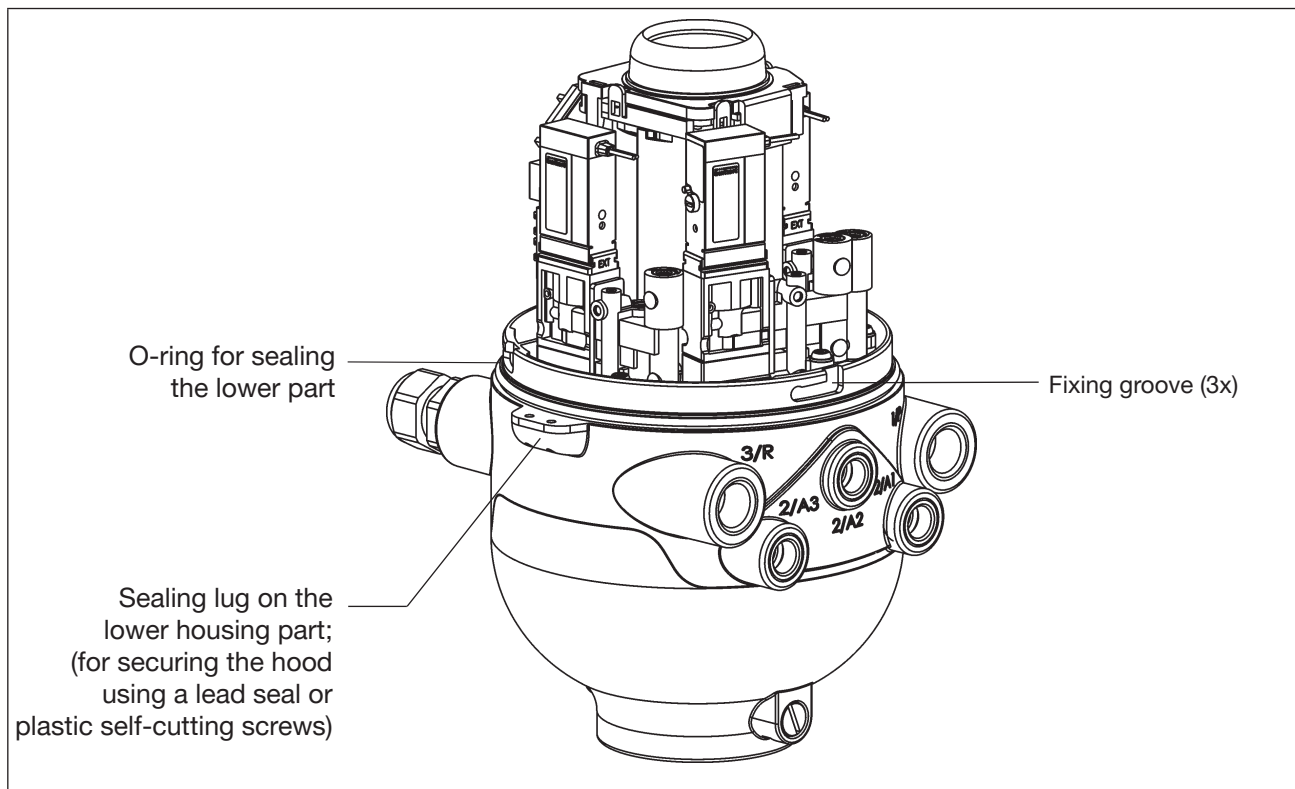

Fig. 12: Lead seal and locking grooves
- Put the plastic hood on the lower part such that the inner “lugs” of the hood are positioned over the locking grooves and the external sealing lugs are positioned almost over each other. Press the hood completely over the seal (O-ring) of the lower part - see “Fig. 12”.